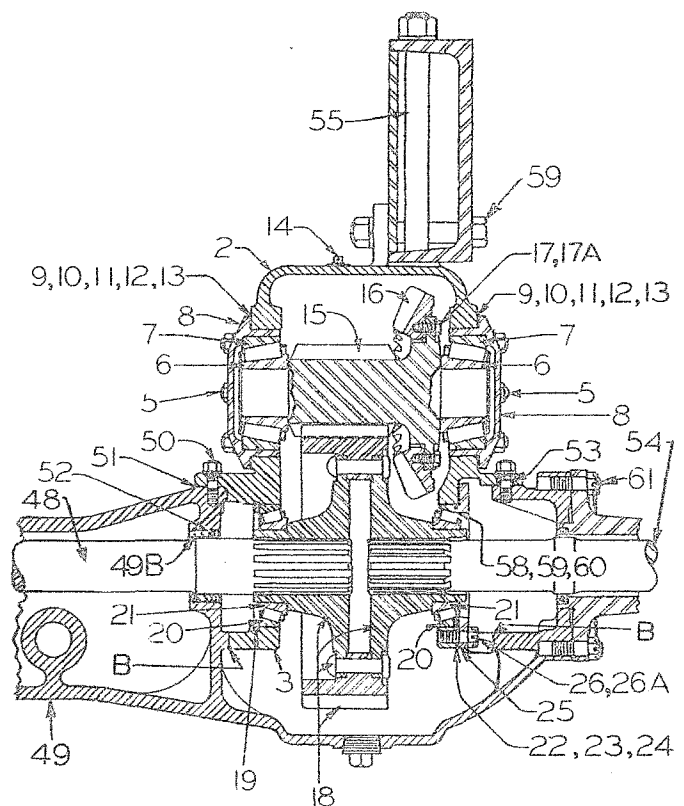

Figure 120A. Rear Axle Gear and Pinion Carrier (Machines H-4670 and up)
(See Fig. 120A)
b. Shims (22), (23), and (24) are to be added, or removed, as required, to establish zero clearance at (B) (see above illustration, Fig. 120A). After shims (22), (23), and (24) are properly installed, the necessary shims (58), (59), and (60) are next installed as per following paragraph.
c. Shims (58), (59), and (60) are to be added, or removed, as required, to establish proper Timken bearing adjustments at (20) and (21), and as shown in paragraph 132, sub-paragraph (b) of this page.
NOTE: The written text as shown under paragraph 132A above, applies to Fig. 120A ONLY, and NOT to Fig. 120 as illustrated on page 112.